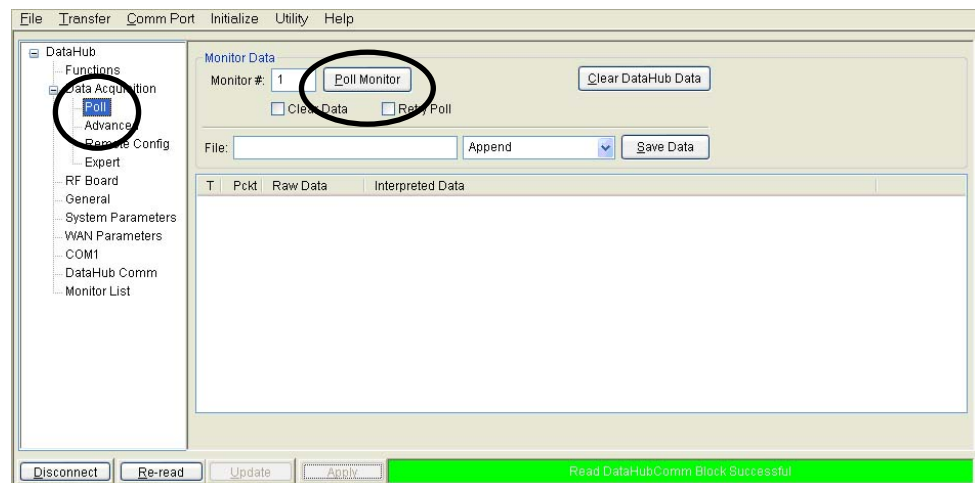

Fig. 8.14: Poll Monitor
8.7.4 Click on **Poll > Poll Monitor.** Fig. 8.14